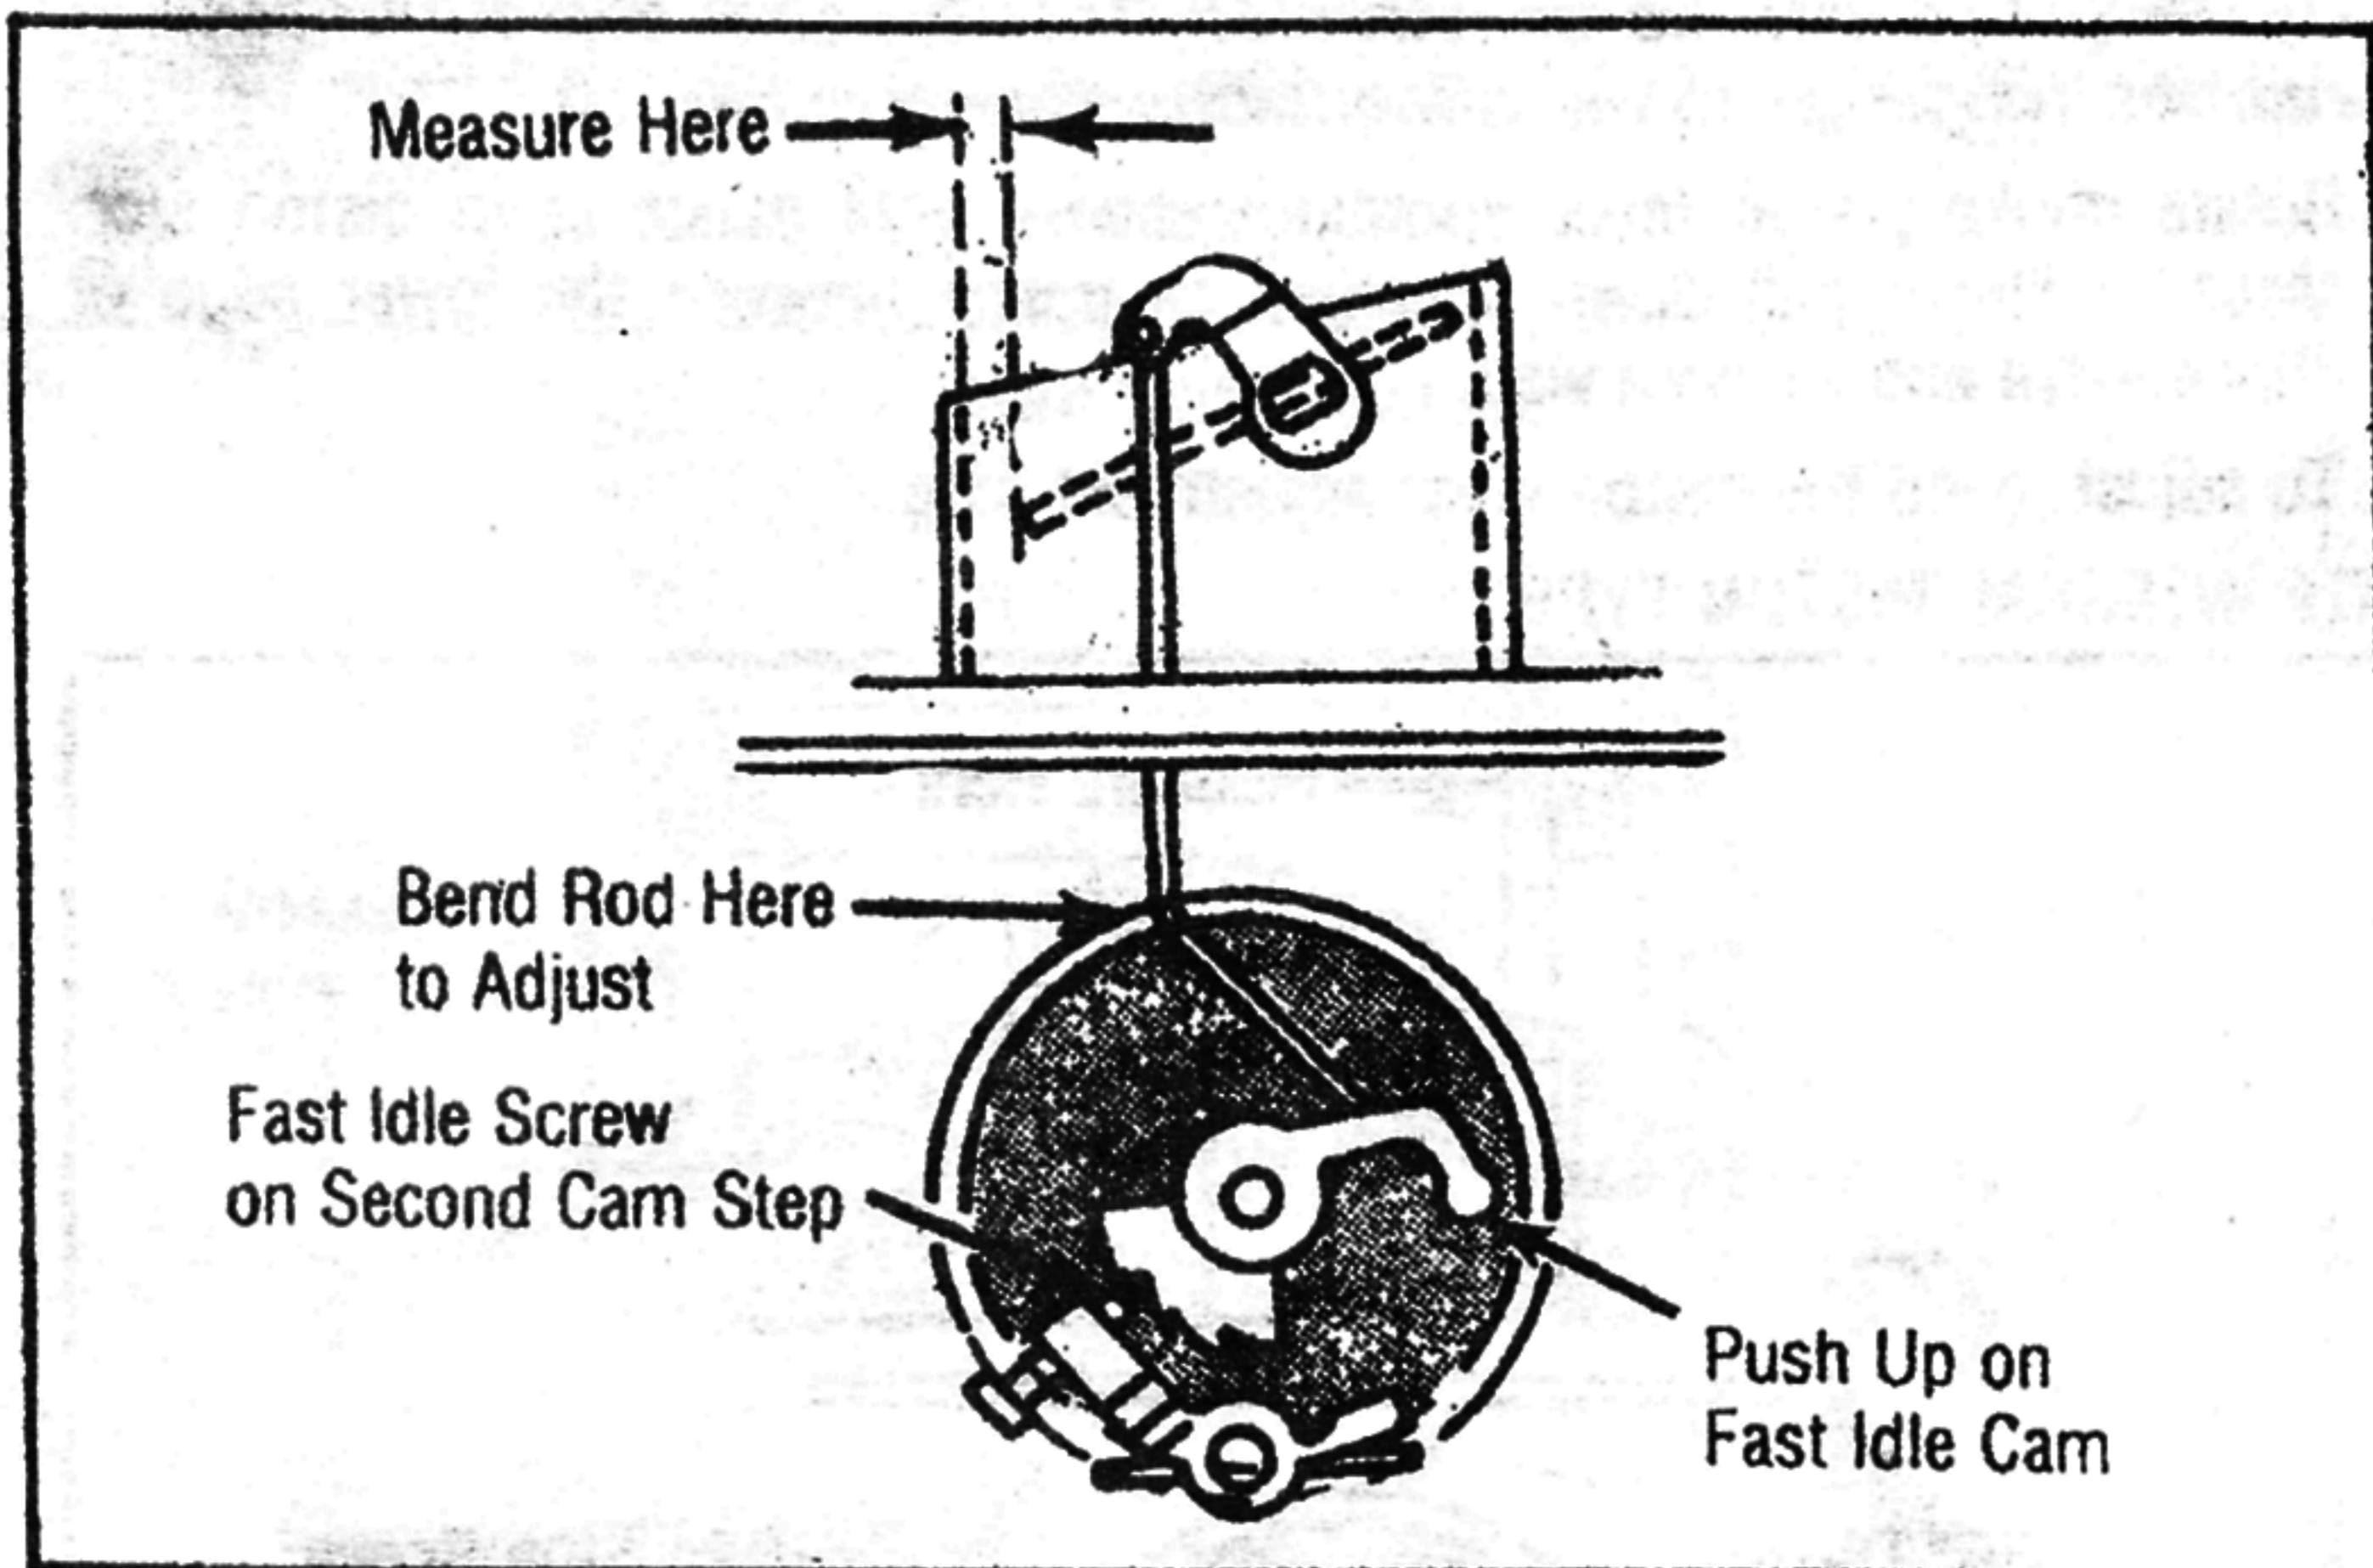

Fig. 13 Fast Idle Cam Adjustment (Integral Choke Models)
1. Loosen choke thermostat cover screws. Rotate cover 45° counterclockwise (rich) to close choke valve. Tighten choke cover screws. See Fig. 13.